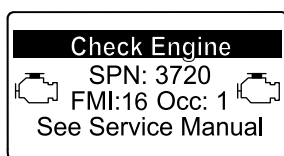

Figura 75
- Engine warning (Avertisment motor) SPN 3720, FMI 16 (Figura 75)